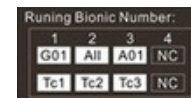

Figure 64
- o Press the Confirm key to enter the Bionic Running Status page (Figure 64).